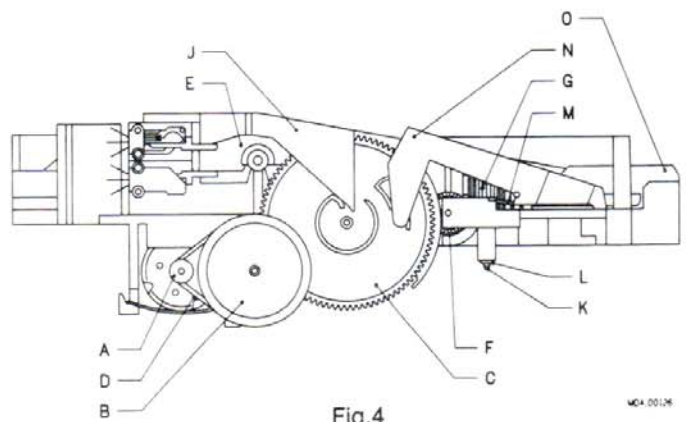
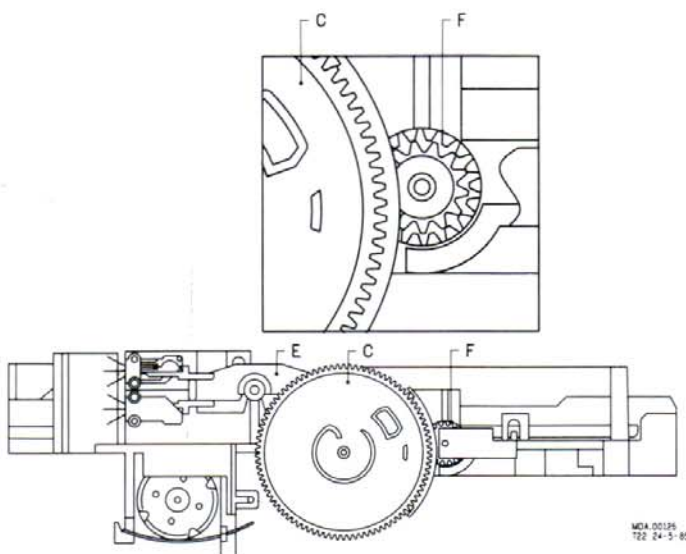

Fig. 4
Fig. 5
- Ensure that the aperture in gearwheel F is vertical (see Fig. 4) and apply cog wheel C in the way described in Fig. 5.
Use 13th order filter 4822 395 30204 (see Fig. 5) to measure: